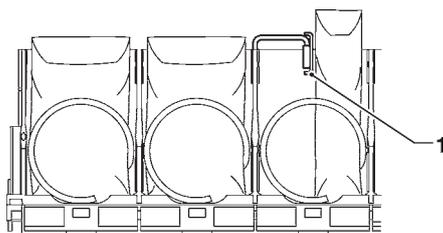

Fig. 13
- Load the products from the outside to the inside. Make sure that all spaces are filled. The product bottom must rest at the bottom of the compartment with the label facing the glassfront so that it can be recognised. The sealed edge of bags may slip beneath the spiral, thus preventing the bag from falling down. Fold the sealed edge forwards and upwards before inserting it into the spiral. Thin products can be dispensed only by using the special spacer (see fig. 13).